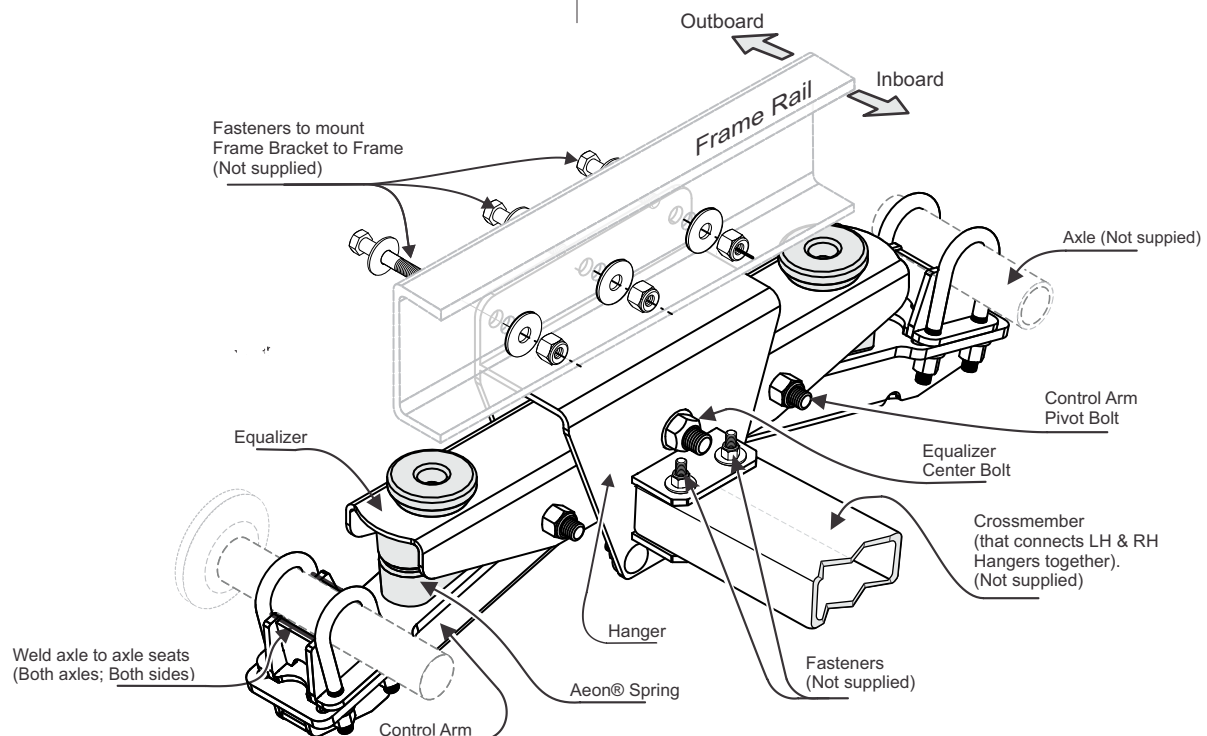

Fig. 1 Installation of suspension to trailer frame
2. Locate hangers on frame rails, opposite to each other. Mate inboard corner faces of each hanger with outboard corner faces of its corresponding frame rail (fig. 1). Move hangers along frame until center of hanger lines up with mark on frame rail at each side. Clamp hangers to frame.
4. Install crossmember: Make a crossmember using a 2"x4"x1/8 (or 2"x4"x3/16") Hollow Structural Steel, ASTM A500 Grade C or G40.21 Grade 350W). The length of crossmember must be the measured width of trailer frame less 8-3/4". Locate crossmember between hangers: position each end of it between two horizontal plates that are attached to inboard side of hanger. Make sure hangers are perpendicular to bottom surface of trailer. Tack weld and then weld crossmember to hangers (weld from top and bottom). Crossmember can also be bolted to hanger (fig 1): use existing holes as a template to drill holes. Use 1/2" bolts (3-1/4" long), washers and nuts to attach crossmember to hangers. Apply a full torque of 70-75 ft-lbs to each nut. To make sure ends of crossmember are strong and won't collapse under compression force of bolts you may need to reinforce ends of crossmember from inside, by using gussets or by inserting and tack welding short pieces of tubes (approx. 1-3/4" long) inside crossmember tube.
7. Weld axle seats to axles (along axle only), as shown in fig. 1. Use 3/16" fillet weld.